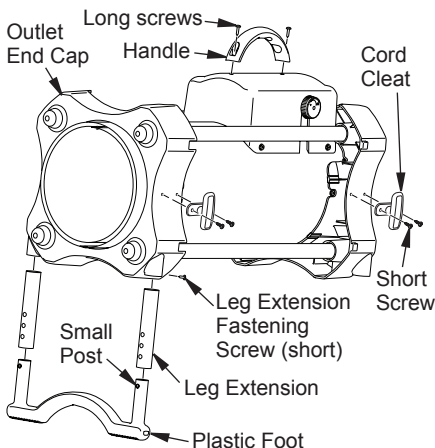

Figure 3 - Handle and Foot Assembly
Attach handle to control box with 2 screws (long) as shown in Figure 3.
1. Insert leg extensions into outlet end cap until small hole lines up with larger hole, visible from inside of outlet end cap (see Figure 3). Fasten leg extensions with provided screws (short).
Install cord cleats on side of end caps as shown in Figure 3 with screws provided (short).